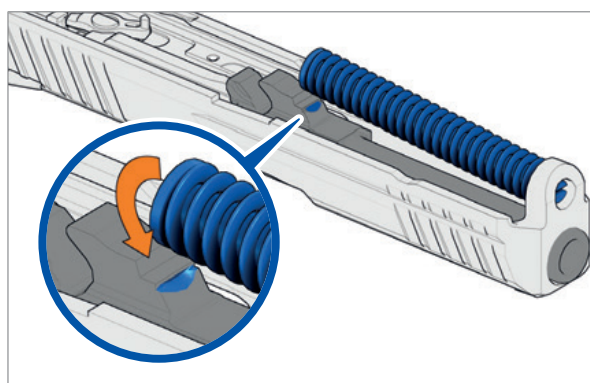
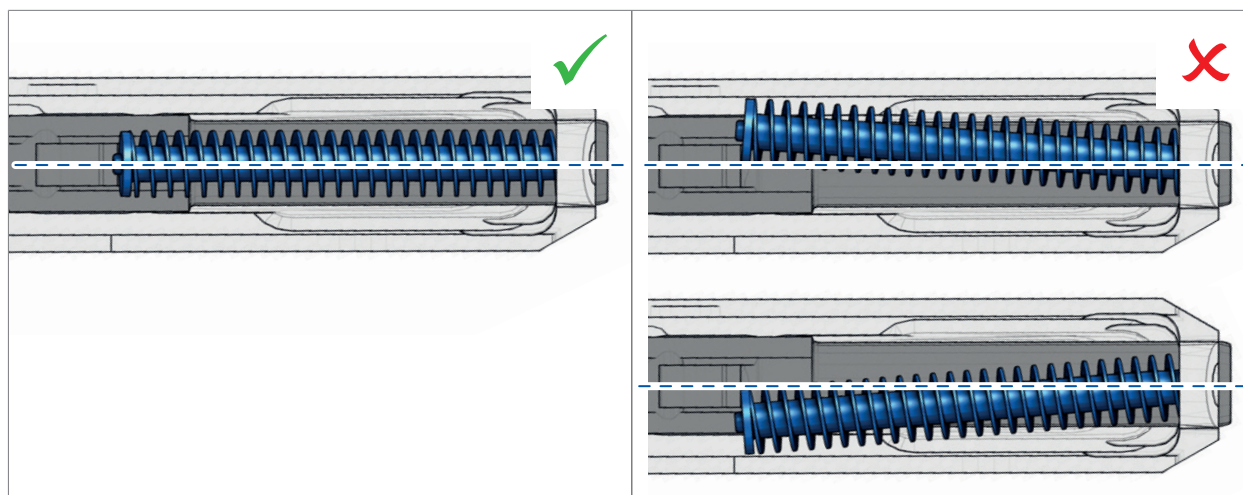

Fig. 55: Rest recoil spring
Fig. 56: Installation position of recoil spring
4. Brace recoil spring on the control surfaces on the barrel (*Fig. 55*). Note installation position of recoil spring (*Fig. 56*).